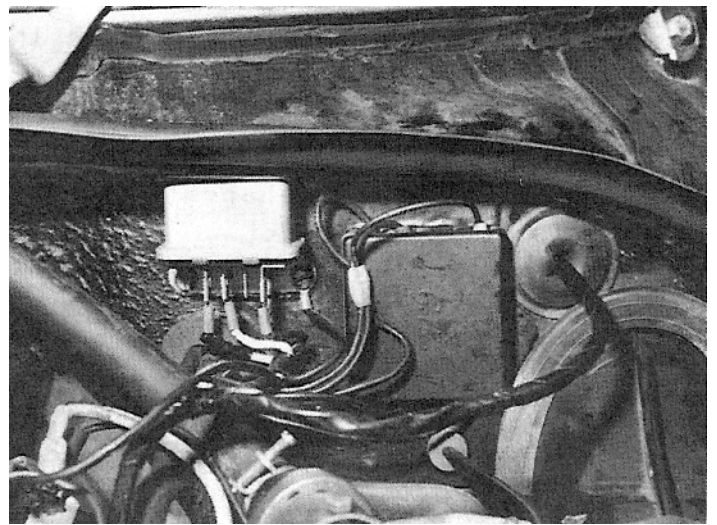

FIG 16
1. Attach green ground lead of wire harness to terminal #5 of relay supplied. Using (2) #10 x 1/2" sheet metal screws attach relay as shown in FIG: 16 Be sure eyelet terminal of ground lead is secured by one of the mounting screws.